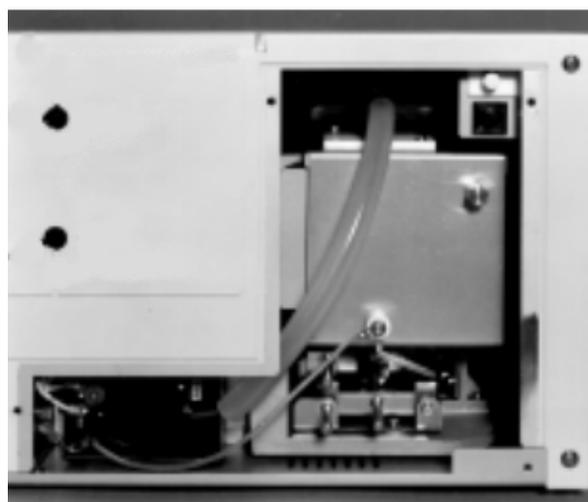

Figure 17 Connecting the Anode and Cathode Cables
5. To connect the cables for the lamp, first loosen the connecting terminals of the lamp igniter (Figure 17). The anode cable (red) is connected to the +HV terminal of the lamp power supply and the cathode cable is connected to the COM terminal.